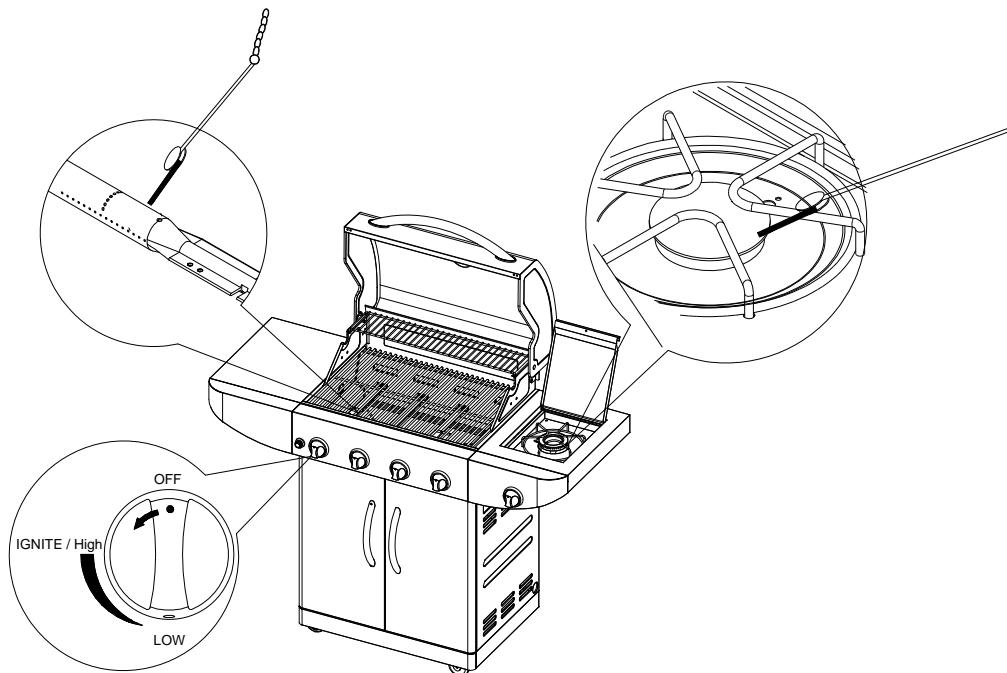

Fig. 24 Match/Paper Lighting Illustration
4. Attach either the match or paper to the clip (Fig. 24), light the match and insert it close to the ports of the burner, and push and turn the depressed knob to the left to “HIGH” position.